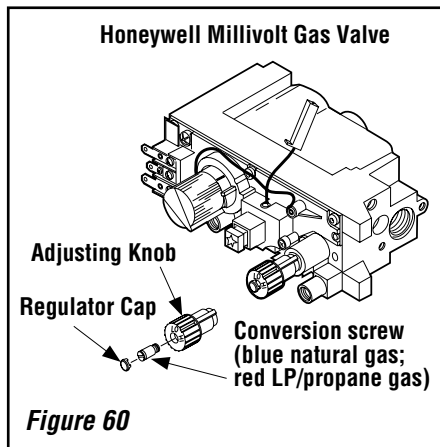

Figure 60
- a. Convert the gas valve as follows (see **Figure 60**): Remove the plastic protecting cap. Remove the gas type setting screw by turning it counterclockwise. Obtain the replacement gas type setting screw from the kit and screw it into place (red for propane and blue for natural gas). Tighten the gas type setting screw by turning it clockwise. Replace the plastic protecting cap.